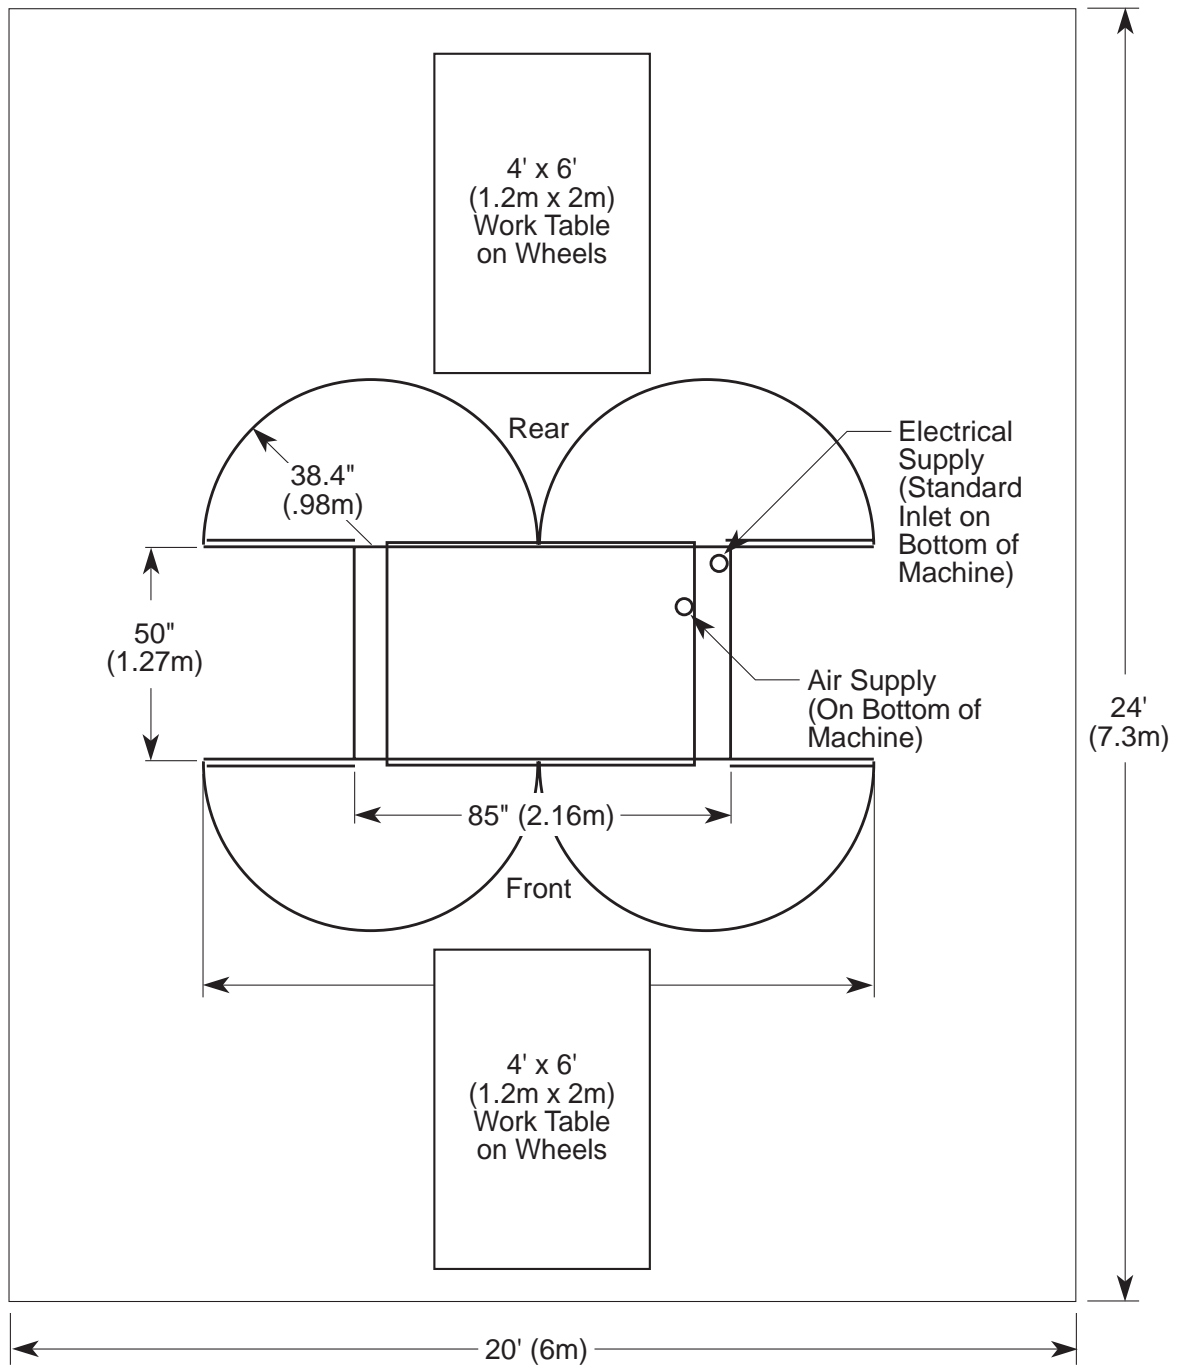

Figure 2-6: Machine Space Requirements
- Is there ample room for the vinyl transfer machine? A work area must be established that allows for operation in both the front and the rear of the machine and provides space for efficient material flow. See *Figure 2-6: Machine Space Requirements* for a typical machine area layout.